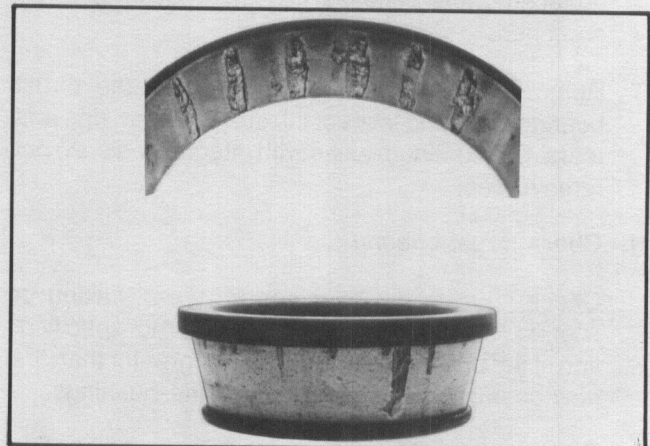

Figure 17
5. Spalling or flaking on bearing cup and/or cone surfaces (Figure 17).